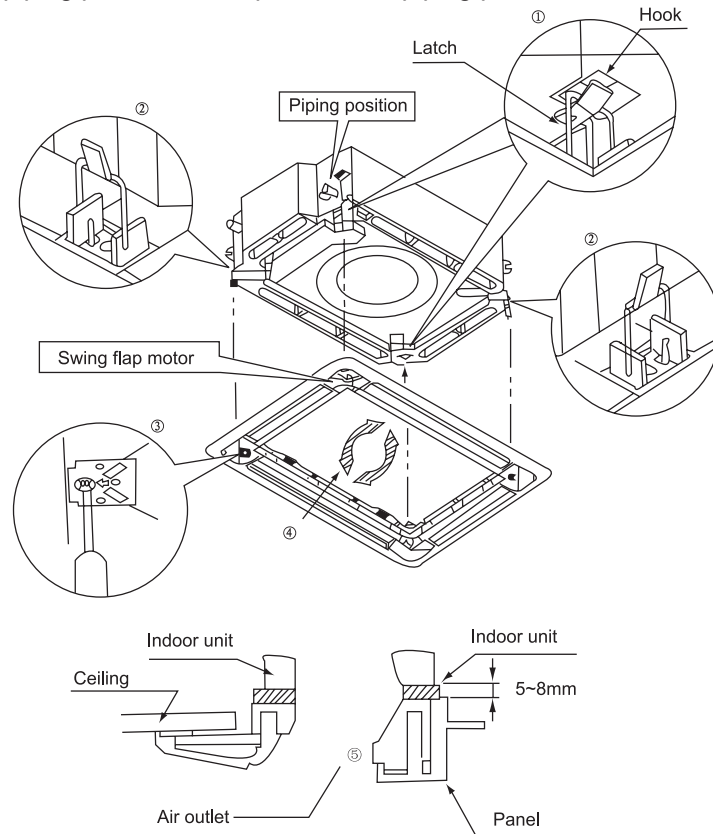

Figure 1-3-13
- Set the panel to the indoor unit body by matching the position of the swing flap motor of the decoration panel to the piping position of the panel to the piping position of the indoor unit as shown in Figure 1-3-13.